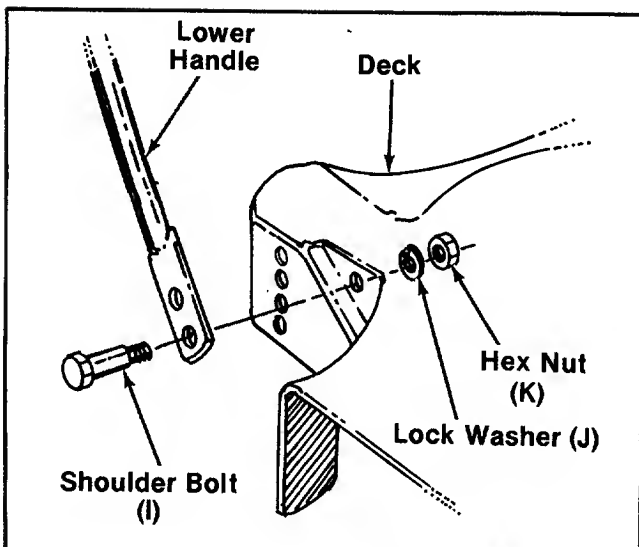

FIGURE 3.
3. Place lower handle in line with hole on deck. Secure to deck with shoulder bolts (I), lock washers (J) and hex nuts (K). See figure 3.